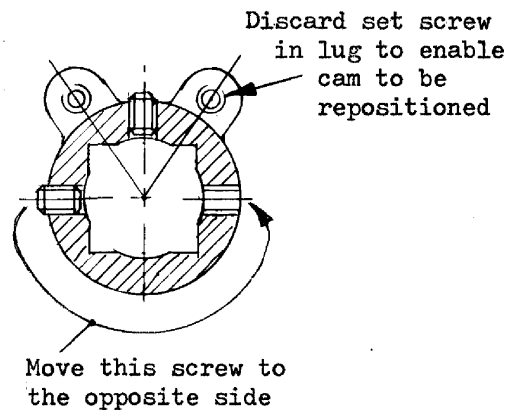

FIG.2
5. There are two set screws which retain the coupling to the Actuator output square. Change one of these over to the opposite side, also remove set screw from lug and discard Fig. 2